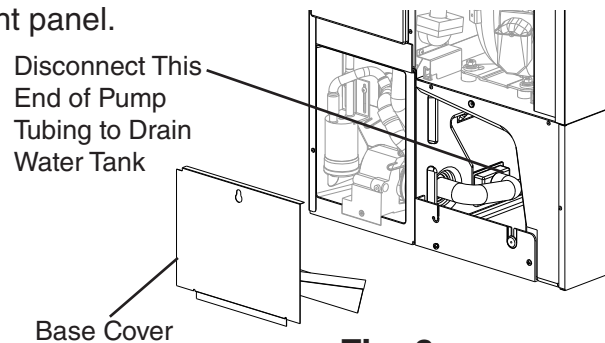

Fig. 6
- a) On KM-320M_H, KM-515M_H, KM-600M_H, KM-650M_H, and KM-901M_H, remove the base cover, then disconnect one end of the pump tubing to drain the water tank. See Fig. 6. After the water tank has drained, reconnect the pump tubing.